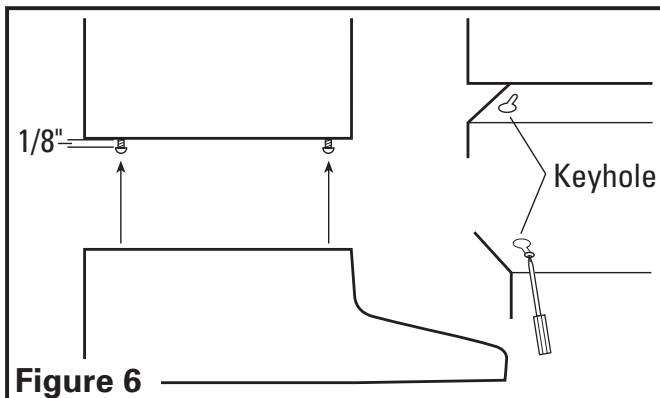

**Figure 5**
- For 3-1/4" x 10" vertical or horizontal ducting, install the damper assembly to the hood by sliding the tabbed section of the damper under the hood body and securing with the two provided screws. For 7" round ducting, secure either a model E-22a or RCD7 Duct Collar (not included) to the hood with the three provided screws (**Figure 5**).